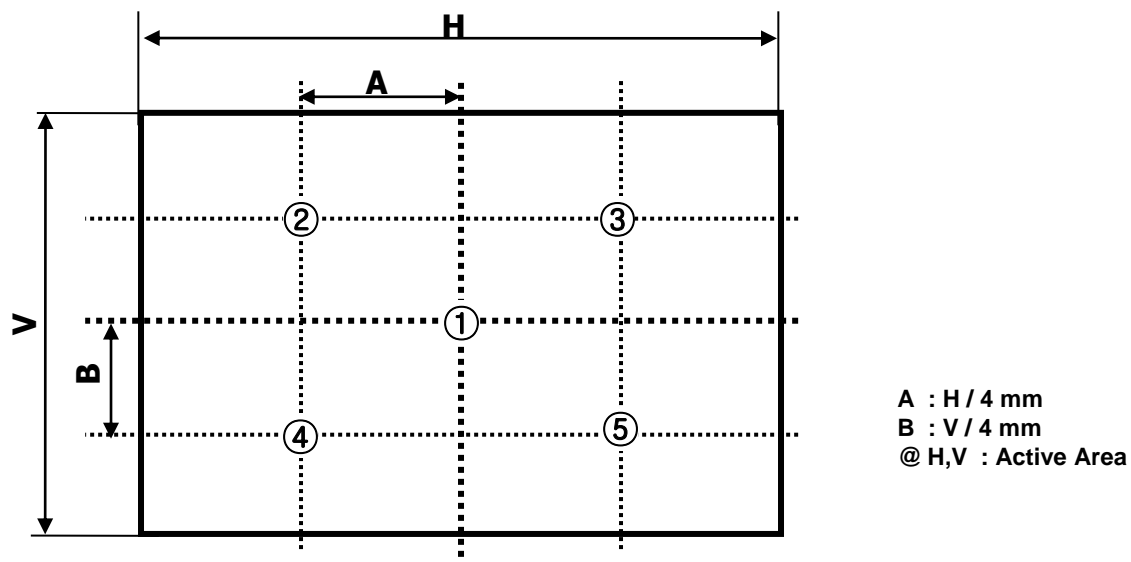

FIG. 2 5 Points for Luminance Measure
$n = 1$ is the Position of CR Measurement. For more information, see FIG 2.
2. Surface luminance are determined after the unit has been 'ON' and 1 Hour after lighting the backlight in a dark environment at $25 \pm 2^\circ\text{C}$. Surface luminance is the luminance value at center 1-point across the LCD surface 50cm from the surface with all pixels displaying white. For more information see the FIG. 2.